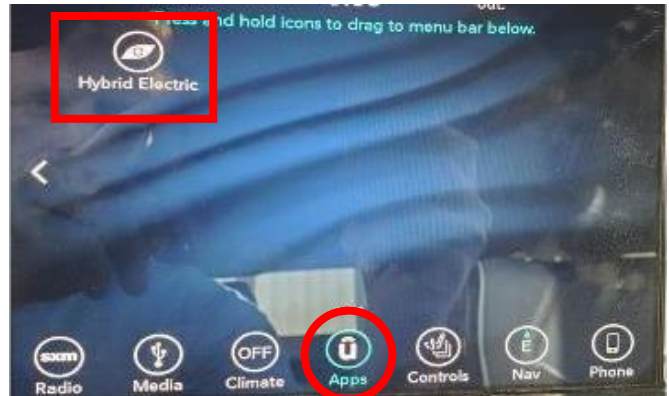

Figure 1 – Apps Display Screen
15. Select “**Apps**” then “**Hybrid Electric**” on the display (Figure 1).